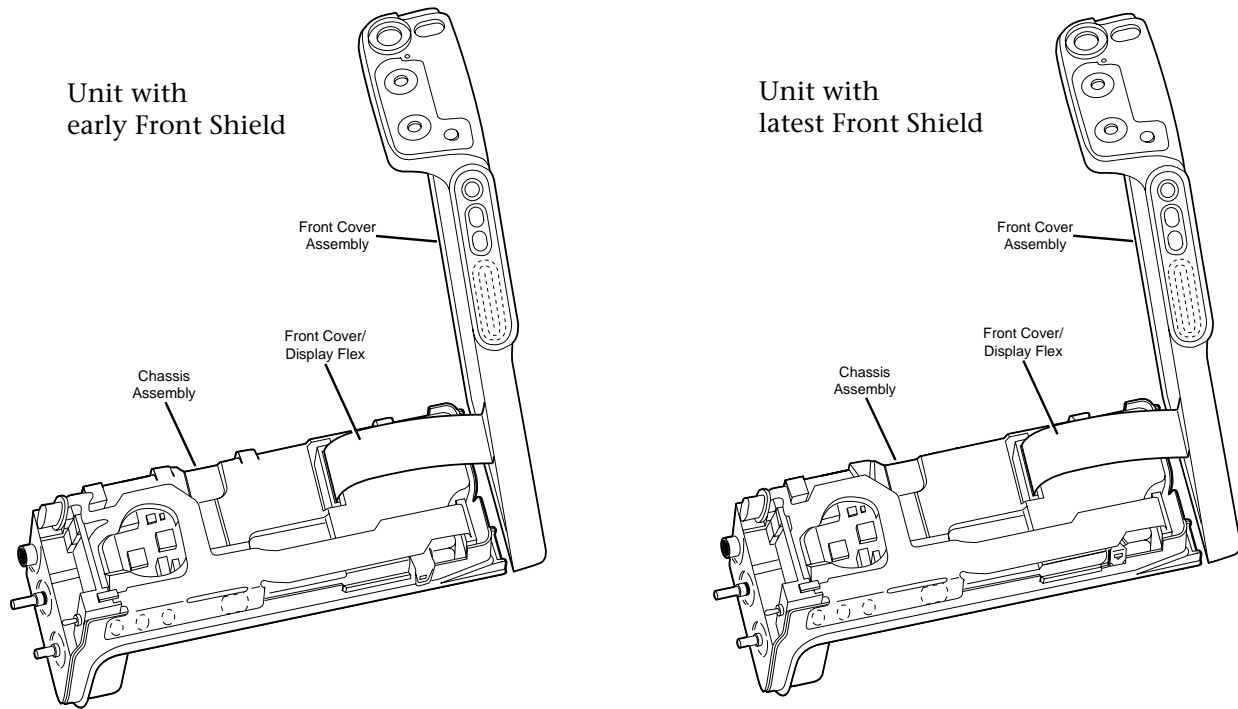
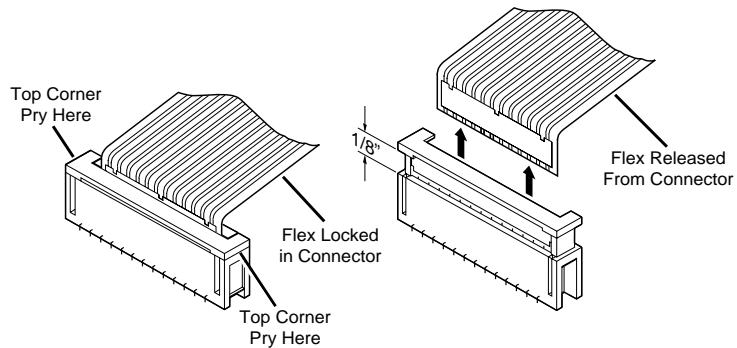

Figure 6 Rotating the Front Cover
Figure 7 Disconnecting the Flex
- c. Lay the chassis down, and rotate the front cover back and partially away from the chassis (see Figure 6).
NOTE: A special locking connector secures the flex to the chassis (see Figure 7).
2. Orient the front cover assembly with the chassis, and insert the front cover/display flex connector into the locking connector of the controller board (refer back to Figure 6). Secure the connection. View the flex connection at a slight angle from the top of the radio and ensure that the flex connector is fully seated into the locking connector as illustrated in Figure 7.